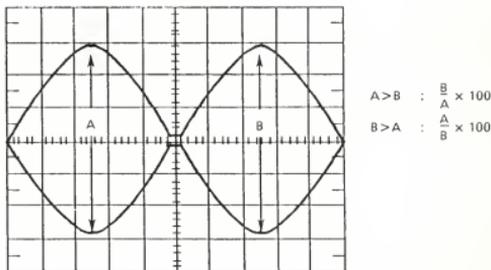

Fig. 5.2 Radial Alignment Waveforms (CATS EYE)
(4) Check the output waveforms for sides 0 and 1. They should appear as in Fig. 5.2.
(5) The two waveforms should appear in the amplitude ratio in the R/A +/- 42% or more.
(6) If the specified ratio is not satisfied, loosen the two mounting screws for the stepper motor.
(7) Move the stepper motor along the base by hand until the two waveforms assume approximately the same amplitude, and retighten the mounting screws. (See Fig. 5.2).
(8) Step the head outward (track 0) and inward (track 40 or 79), and confirm that the adjustment has been completed.
(9) After the initial adjustment, be sure to confirm track 00 sensor adjustment 5.8 and carriage limiter 5.9.